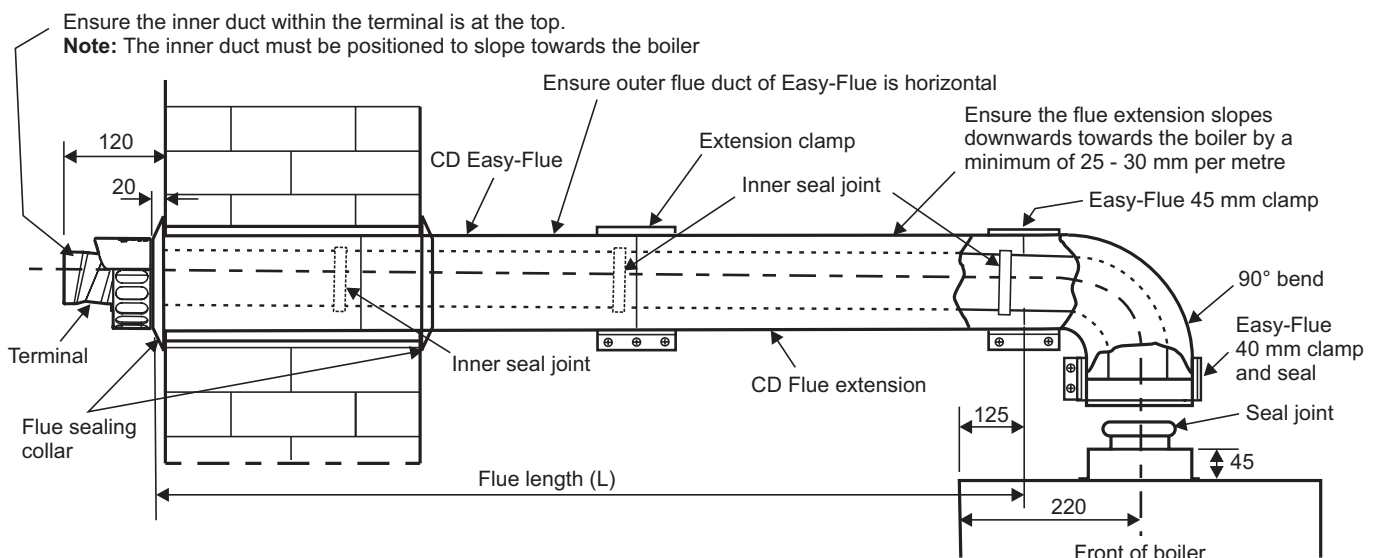

Fig. 5.11 - Side flue
5.8 EXTENDING THE FLUE - Fig. 5.11
Note: Check the flue terminal protrudes 120 mm out of the wall and that the inner duct of the terminal is positioned correctly, i.e. the inner duct within the terminal is at the top. See Fig. 5.11.